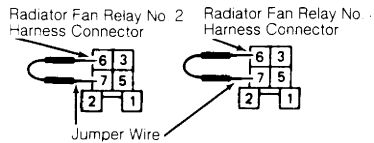

Fig. 44: Testing Radiator Fan Low Speed Circuit (Maxima VG30E, Step 1)
3) Measure voltage between ground and each radiator fan motor harness connector terminal "b" (fan No. 1 is White/Yellow wire and fan No. 2 is White/Blue wire). See Figs. 44 and 45. Battery voltage should be present. If battery voltage is present, go to next step. If battery voltage is not present, check Gray in-line fusible link located near positive battery terminal. Replace as necessary. Check Red fusible link located in fusible link box at engine side of battery. Replace as necessary. If both fusible links are okay, repair open in appropriate wire or connectors between relay and fusible link or between relay and
4) Turn ignition off. Disconnect jumper wire installed in step 2). Connect jumper wire between radiator fan relay No. 2 and No. 3 harness connector terminals No. 3 (relay No. 2 is White/Black wire and relay No. 3 is White/Red wire) and No. 5 (Black wire). Check continuity between ground and each radiator fan motor harness connector terminal "c" (fan No. 1 is White/Black wire and fan No. 2 is White/Red wire). See Figs. 44 and 45. Continuity should exist. If continuity exists, go to next step. If continuity does not exist, repair open in appropriate wire or connector.